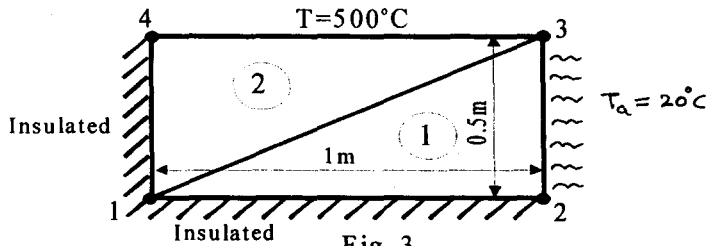

Fig. 3
- 5) For the two dimensional body, shown in Fig. 3, determine the temperature at nodes 1 and 2. The bottom and the left sides are insulated while the top side is maintained at a temperature of 500°C . The right side is subjected to heat transfer by convection. Take $T_a = 20^\circ\text{C}$, and $h = 20 \text{ W}/(\text{m}^2\text{-}^\circ\text{C})$. There is no heat generation in the body and the front and back surfaces are also insulated. Thermal conductivity $k = 10 \text{ W}/(\text{m}\text{-}^\circ\text{C})$. Derivation is not compulsory. [14]